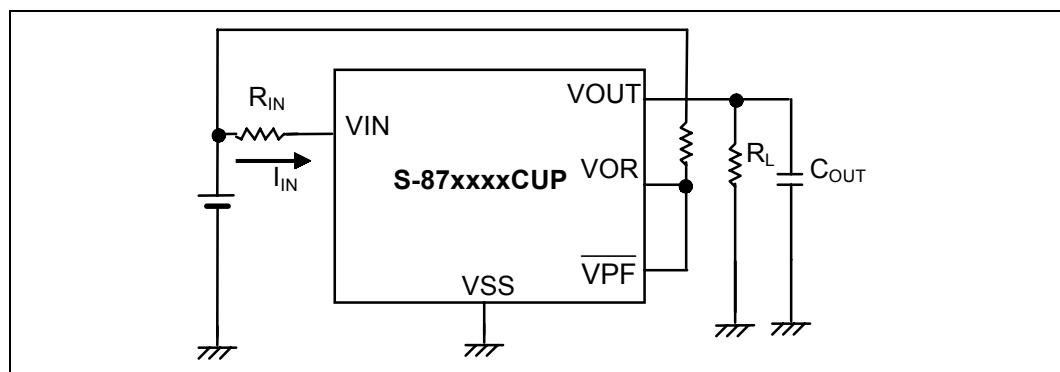

Figure 22 Attention connecting example 1
**Caution 1.** As shown in Figure 22 to 24, when connecting  $V_{OR}$  output to  $\overline{VPF}$  pin in the C type or connecting SENSE pin to VIN pin in the E type, the following phenomena occur if resistor ( $R_{IN}$ ) is connected between input voltage and VIN pin. Be careful.
- (1) At the time of voltage detection, the voltage regulator is shutdown and load current is cut. Therefore, VIN pin voltage increases by  $\Delta V_{IN}=I_{IN} \times R_{IN}$ , where the current flowing into  $R_{IN}$  is set to  $I_{IN}$ . Hence, if  $\Delta V_{IN}$  exceeds hysteresis width ( $V_{HYS}$ ), oscillation starts immediately after detection and continues. It is necessary to set  $\Delta V_{IN}$  less than  $V_{HYS}$ .